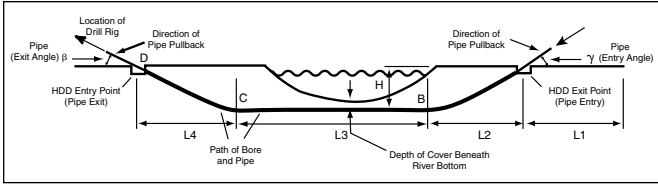

Figure 1. Simplification of the HDD bore (ASTM F 1962).
ASTM F 1962 presents a series of equations to predict the installation loads for polyethylene pipe (PE) based on an idealized bore representation depicted in Figure 1. Installation loads are estimated sequentially at transition or discrete points A, B, C and D. The bore is represented as a series of straight and curved segments. The analysis accounts for installation length, depth of cover, entry and exit angles, changes in the bore trajectory, buoyant pipe weight, and coefficient of frictions between the product pipe and the ground surface (or rollers) and between the product pipe and the bore. Pipe material properties such as pipe stiffness and drilling fluid/bore slurry flow properties are not captured in the analysis. This method of predicting loads is recommended by PE pipe manufacturers and the Plastic Pipe Institute.